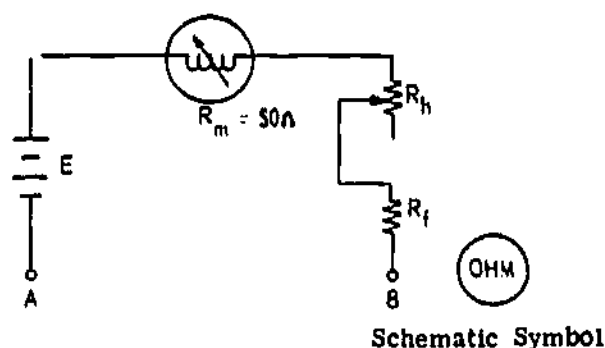
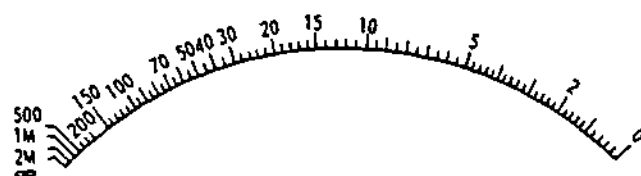

Figure 5-19. Ohmmeter
Figure 5-20. Ohmmeter Scale
5-60. The simple ohmmeter circuit of figure 5-19 consists of the following elements: (1) a source of EMF usually supplied by a small dry cell, (2) a basic meter movement
ohms. With this resistance and a good battery, connecting terminals A and B (figure 5-19) will cause full-scale deflection; this brings the needle to the zero ohms position (figure 5-20). As the battery gets old, it is necessary to adjust  $R_h$  (decrease the resistance) to ZERO the meter. If adjusting the meter cannot get the pointer to zero, you may need to replace the battery.
5-63. The scale of this ohmmeter, instead of being numbered from left to right as are the scales on ammeters and voltmeters, is numbered from right to left as shown in figure 5-20. The scale results from the fact that current in a DC circuit with a constant applied voltage is inversely proportional to the resistance of the circuit. The scale is not linear nor is it a square-law scale.